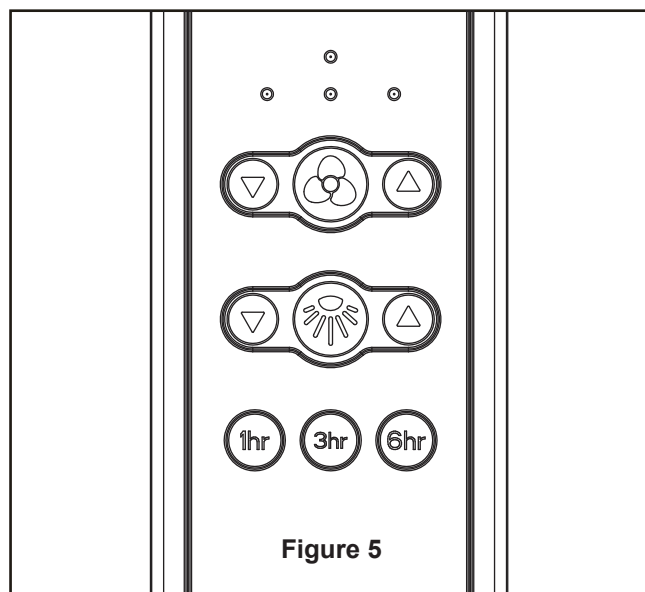

Figure 5
4. After connections have been made, the wires should be spread apart with the grounded conductor and the equipment-grounding conductor on one side of the outlet box and the ungrounded conductor on the other side of the outlet box, then turn leads upward and carefully push leads into the outlet box, with the white and green leads to one side of the box and the black leads to the other side. (Figure 5)
- ☐ 5. Assemble the light kit assembly to the switch housing assembly using the two key slots in the light kit assembly. Replace the third screw and secure all three screws. (Figure 5)
5. Remote functions: (Figure 5)